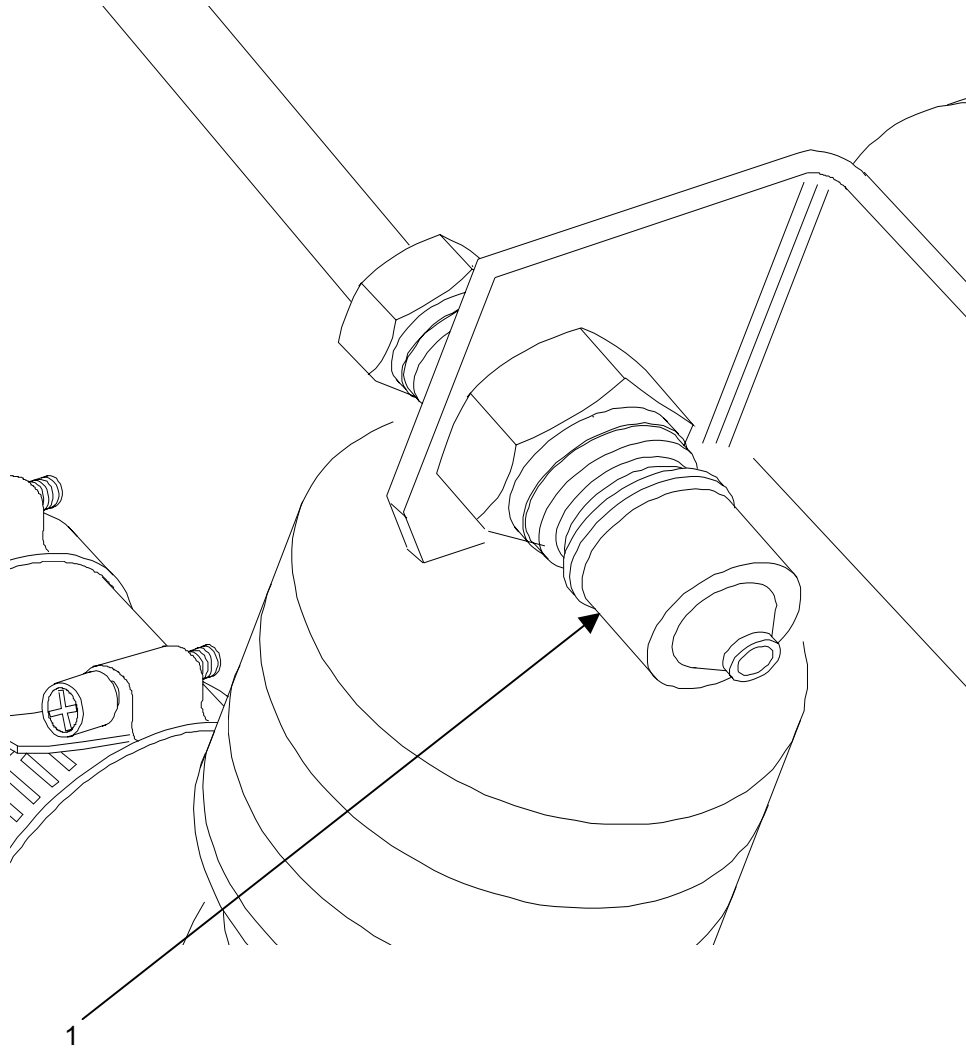

Figure 1. Inspect the Fuel Interface Fitting
Inspect the fuel interface fitting (**figure 1, item 1**) for physical damage, secure attachment, and leakage. Check free movement of the valve stem.